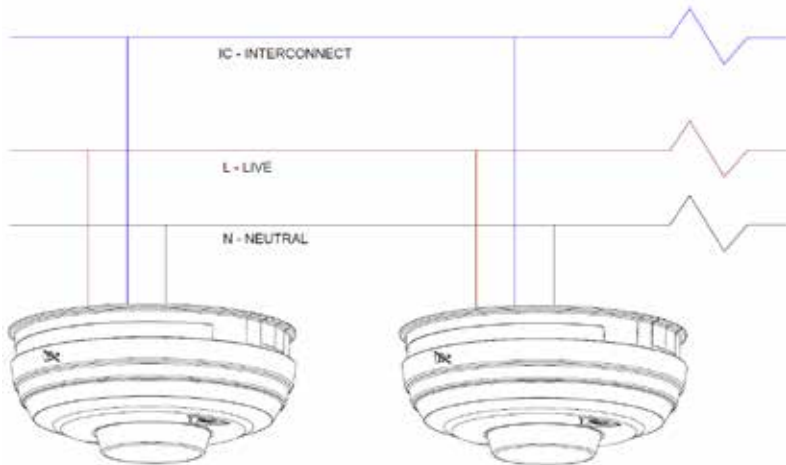

Figure 7 - VISALERT *PLUS* connection diagram
3. Remove the terminal cover on the Easi-fit Base and terminate the incoming three wires L, N & I into the plug as shown in Figure 7 below.